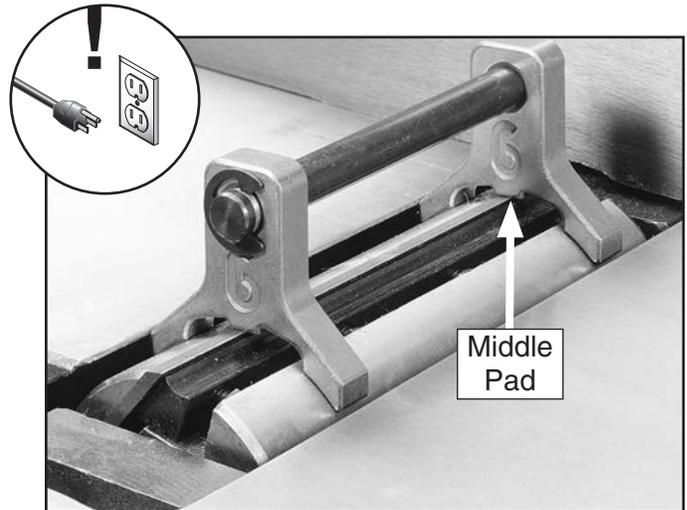

Figure 66. Jig positioned over cutterhead knife.
4. Place the knife jig on the cutterhead, directly over a knife, as shown in **Figure 66**.
6. Position the knife gauge over the knife as shown in **Figure 66** and loosen the gib bolts until the knife is completely loose.